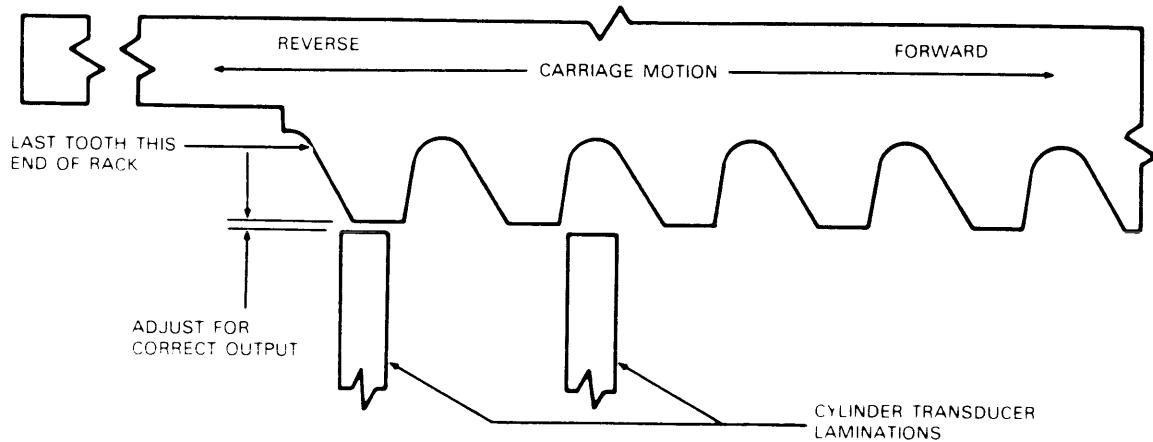

FIGURE 5-5b. RACK AND CYLINDER TRANSDUCER AT CYLINDER 202
5.5.3.2 Transducer Amplitude Check. (Refer to Figure 5-5b.)
7. When the carriage is detented at cylinder 202, observe the scope and turn pivot screw (D) clockwise until the first crest (peak) is obtained. Using the dental mirror, check the transducer coil-to-tooth relationship (see Figure 5-5b). The left coil should be approximately at the top dead center (slightly left) over the last tooth. If it is, proceed to step 9.
8. If the left coil is between the last two teeth, slowly turn the pivot screw (D) clockwise until the next crest is reached. Check the coil-to-tooth relationship. It should now be as specified in step 7.
9. At this time, record the peak amplitude. Slowly turn the pivot screw (D) clockwise until 80% of the recorded peak is obtained.
10. Check the overall amplitude. If necessary, turn the drawback screw (B) slightly counterclockwise and push on the transducer base to the right of the drawback screw until the amplitude is approximately 1000 mv. Now, with the heads retracted, slowly tighten the transducer hold-down screw (C).
11. Load the heads again and check the overall amplitude. It should now be between 600 and 800 mv. If over this range, turn the pivot screw (D) slightly counterclockwise and then turn the drawback screw (B) **slowly clockwise** until the amplitude is between 600 and 800 mv.